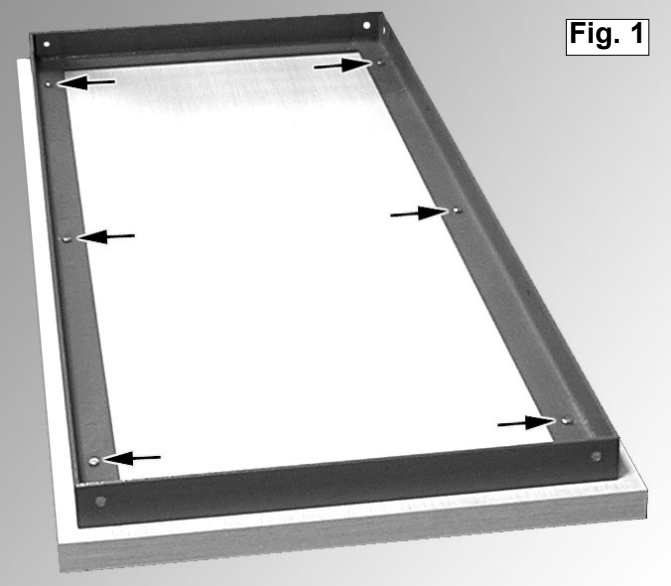

Fig. 1
- 4.1 Place a protective layer onto the floor e.g. the cardboard packing from this product. Lay the worktop face down onto the protective layer. Lay the support frame onto the top and align the six holes in the frame with the six pre-drilled holes in the worktop (see Fig.1). Fasten the frame to the top using the 6 M11 x 36mm hex headed woodscrews provided.